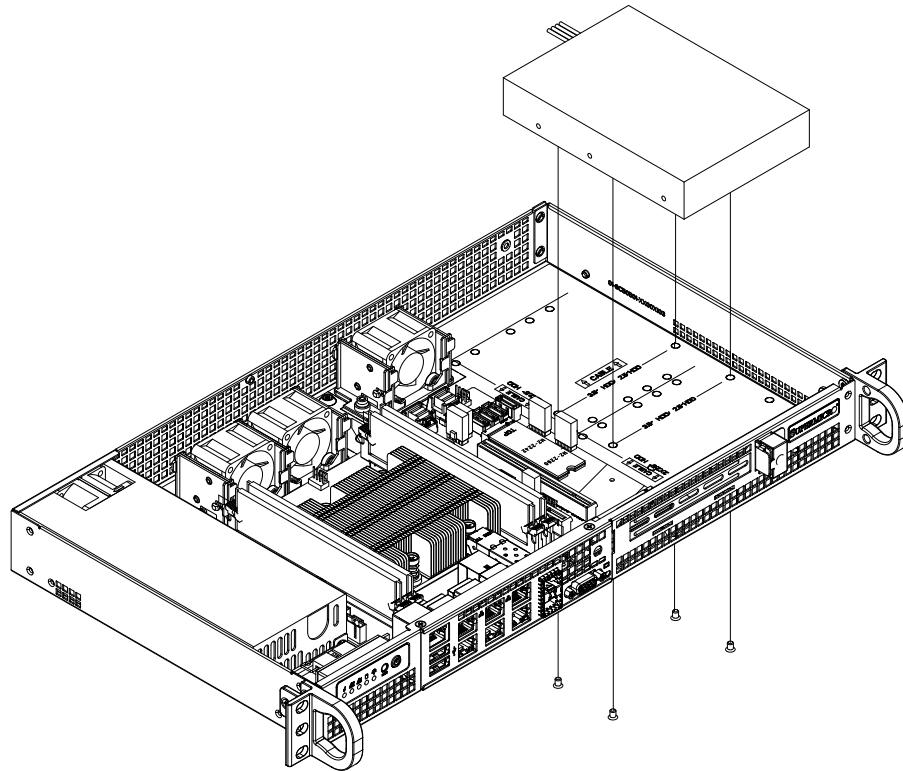

Figure 3-3. One 3.5" HDD and One Low-Profile Expansion Card
1. Place the hard drives into the chassis as illustrated in Figure 3-3. Orient the drives with the cable connections facing the rear of the chassis.